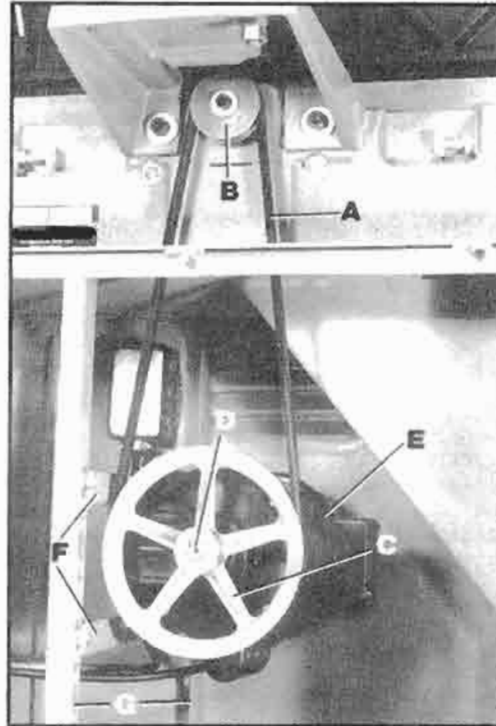

Fig. 11
1. Place the belt (A) Fig. 11, around the cutterhead pulley (B), down through the hole in the jointer stand and around the motor pulley (C) as shown.
2. Using a straight edge, make certain the motor pulley (C) Fig. 11, is aligned with the cutterhead pulley (B).
3. If an adjustment is necessary, the motor pulley (C) Fig. 11, can be moved in or out on the motor shaft (D), or the motor (E) can be moved along the mounting bars (F).
Correct belt tension is obtained when there is approximately 1" deflection in the center span of the belt (A) Fig. 11, using light finger pressure. If an adjustment is necessary, it can be made by the following methods:
1. Raising or lowering the motor on the motor mounting bars (F) Fig. 11.
2. If a major adjustment is needed, the motor mounting bars (F) Fig. 11, can be repositioned on the two posts (G).